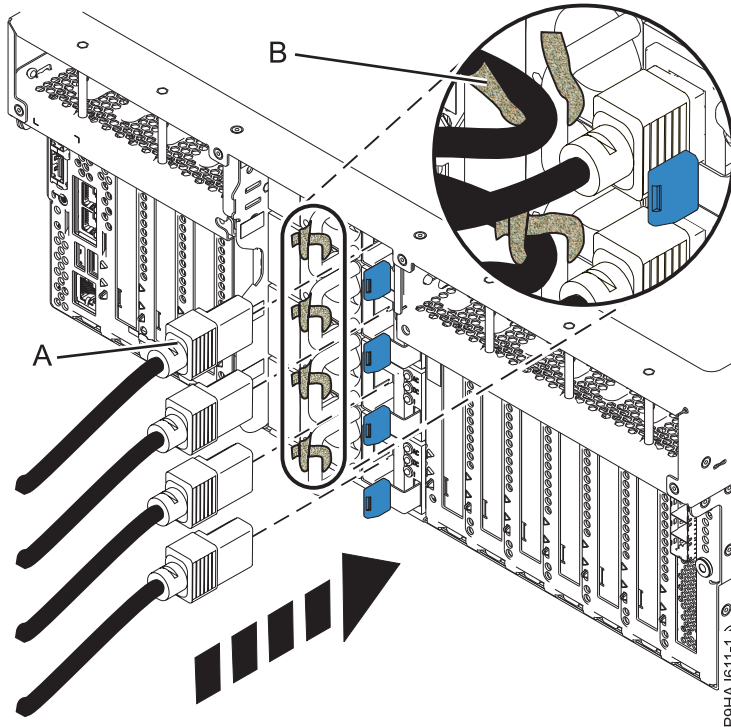

Figure 31. Connecting the power cords
2. Reconnect the power cords (A) to the system unit. Fasten the power cords to the system using the hook-and-loop fasteners (B) as shown in Figure 31 on page 42.